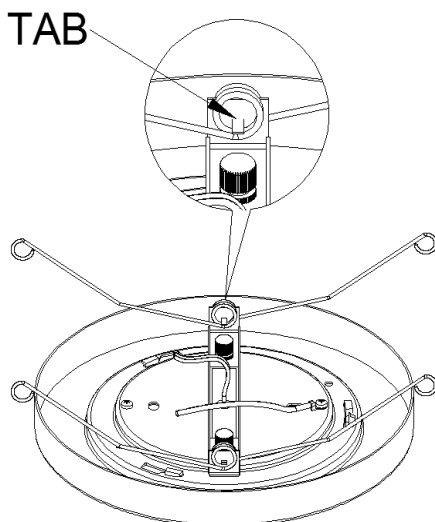

Fig.1
2. Use the screw and screw nut to fix the 5" & 6" spring when you install to the 5" or 6" housing. (Fig.1)